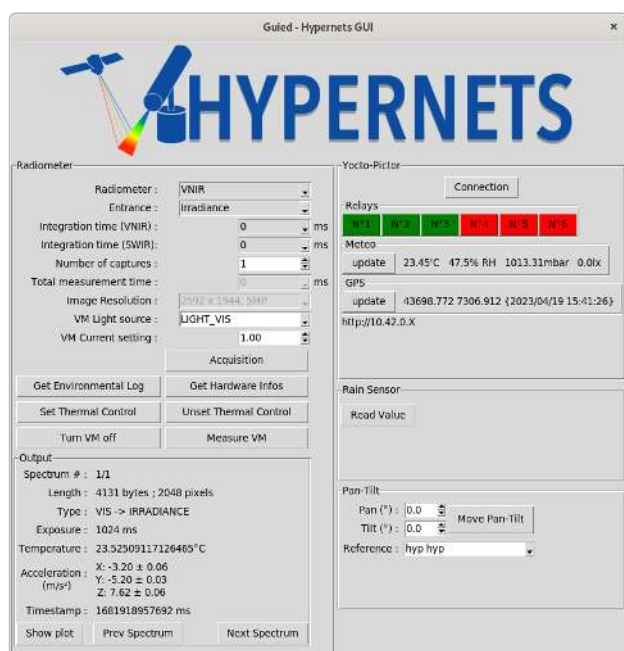

Figure 23: Graphical User Interface
- Click on *Connection* and activate the relay #2 (figure 23)
- Open the GUI and activate relay #2, and #3 (Figure 23).